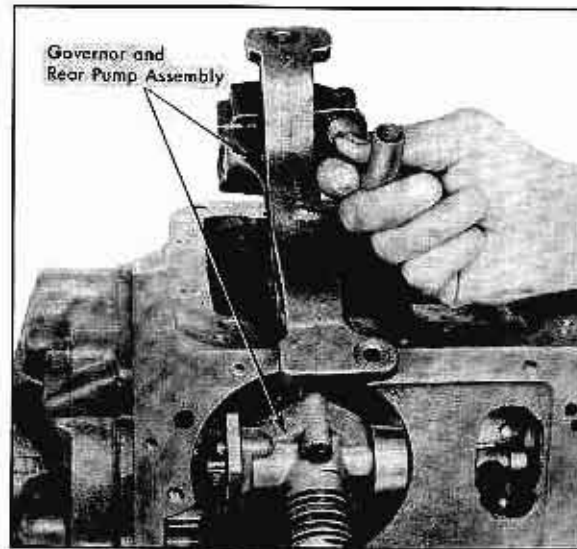

Fig. 14-21 Removing Rear Oil Pump and Governor Assembly
3. Remove governor and rear pump assembly by moving toward valve body side of transmission case and lift to clear case. Fig. 14-21.